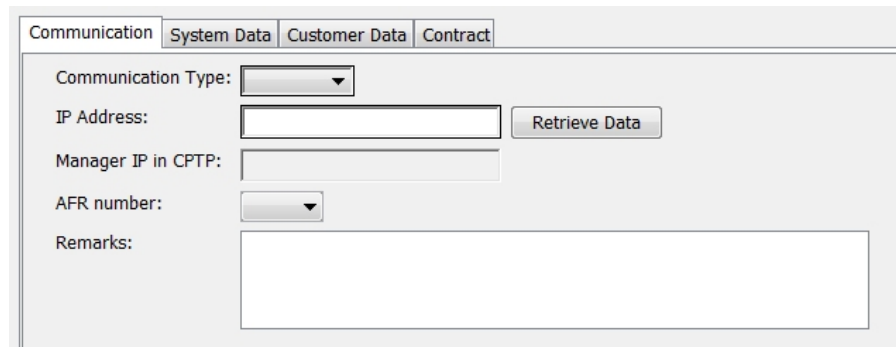

Figure 59: Communication Subtab
- 3) In the Domain screen, open the Object menu and select New (see Figure 59).